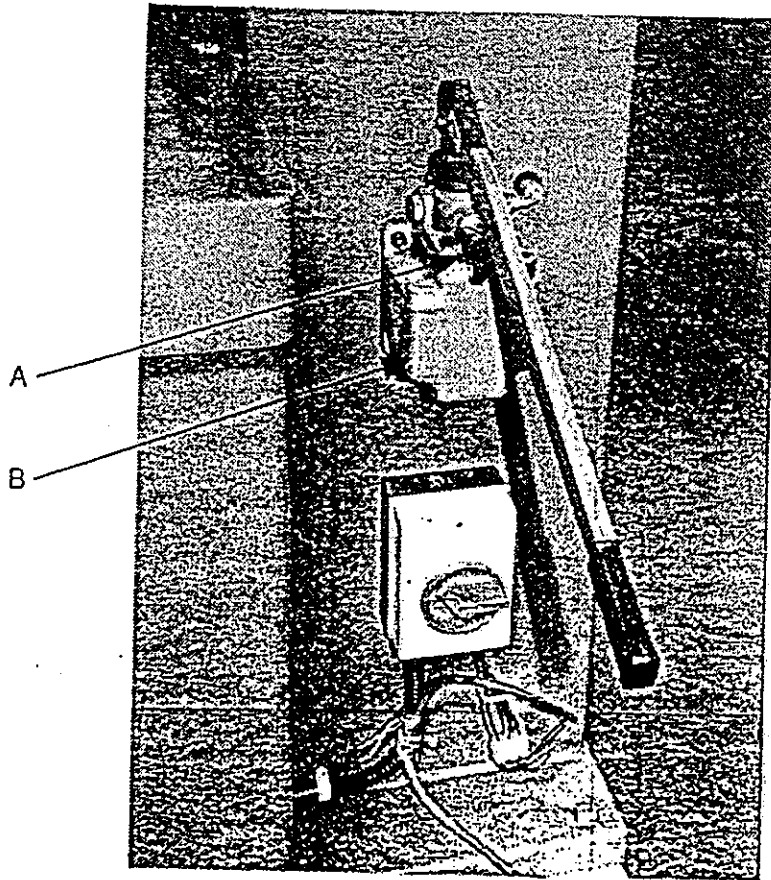
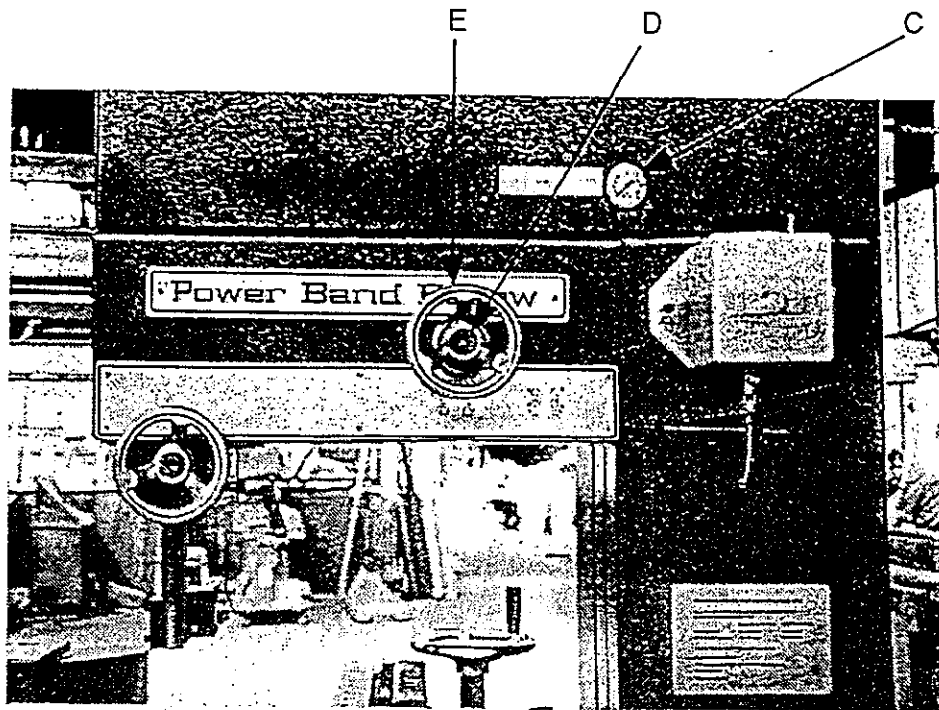
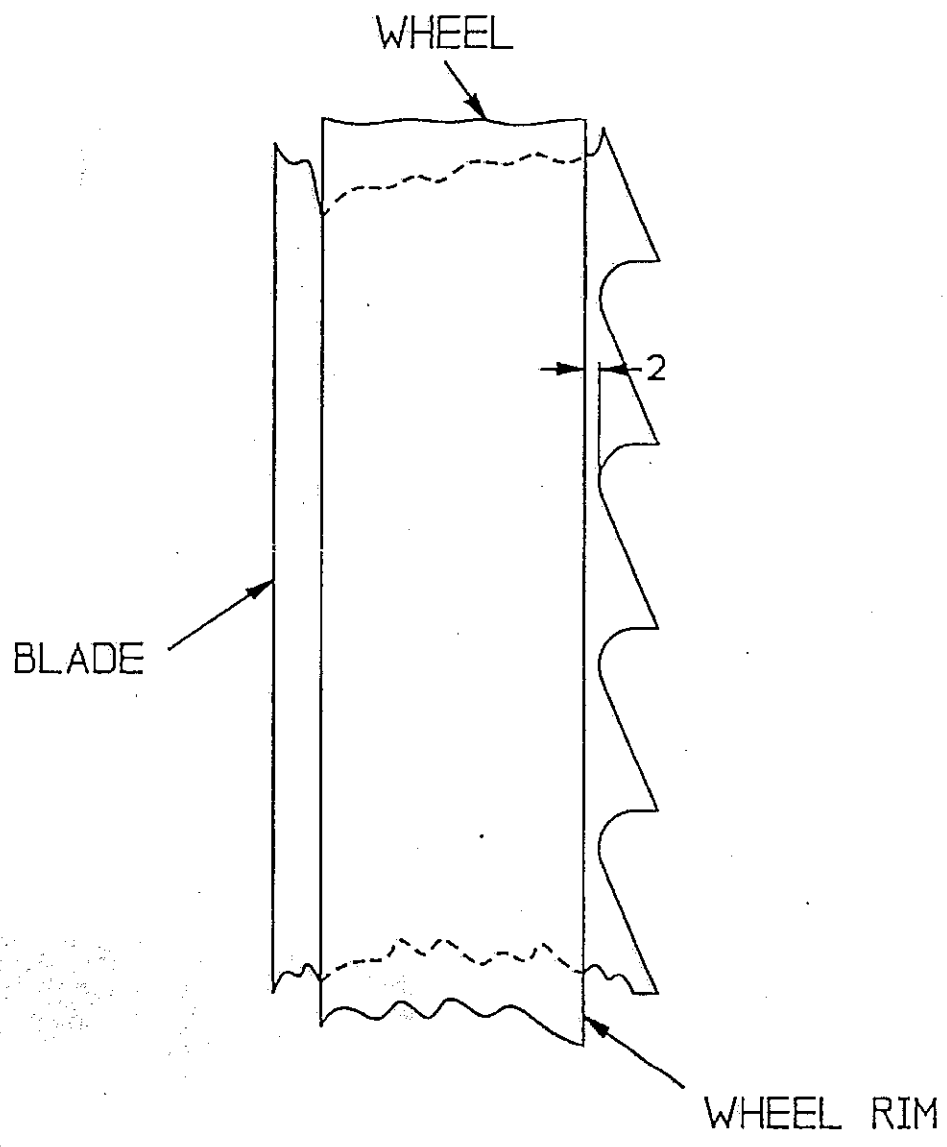

FIG 3
FIG 4
FIG 5
2. Release hydraulic tension with handwheel 'A' (fig3).
6. Tension the saw via the hydraulic pump unit 'B' (fig3), refer to the gauge 'C' (fig4) for the correct pressure of 100 bar.
7. Track the blade by rotating the top wheel by hand in a clockwise direction. The root of the saw tooth should project past the rim of the wheel by 2mm (fig.5) Should the blade require tracking loosen the handwheel 'D' (fig4) & turn handwheel 'E' (fig4) until the saw is tracked correctly. Retighten handwheel 'D' to lock tracking position.